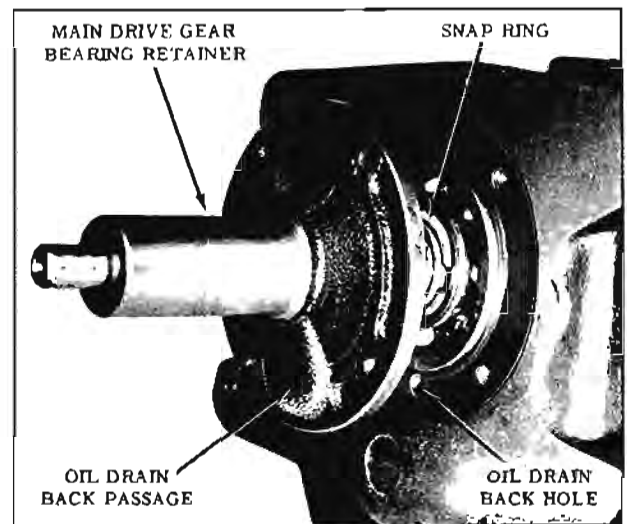

Fig. 11-220 Main Drive Gear Bearing Retainer Removal
1. Remove the four bolts from the main drive gear bearing retainer and remove the retainer and gasket. (Fig. 11-220)